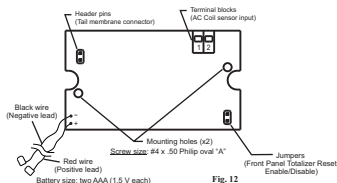

Fig. 12
- Model F-1000-TB:The F-1000-TB is the basic totalizer meter. The meter will display the total flow amounts from .01 through 999999 in any engineering units. Some standard units of measure are GALLONS, LITERS, CUBIC METERS. Pressing and holding the RESET button (located on the front panel) for at least 2.0 seconds resets the total to zero. This feature can be disabled -- see Fig. 12 below.
- Model F-1000-RT:The F-1000-RT is the rate and totalizer meter. The meter will display the flow rate amounts and the total flow amounts from .01 through 999999 in any engineering units. Some standard units of measure are GALLONS PER MINUTE, GALLONS PER HOUR, GALLONS PER DAY, LITERS PER MINUTE, LITERS PER HOUR, LITERS PER DAY, CUBIC METERS PER HOUR, CUBIC METERS PER DAY. Pressing the RESET button (located on the front panel) toggles the display between flow rate and total flow. Pressing and holding the RESET button for at least 2.0 seconds while the total flow value is displayed will reset the total to zero. This feature can be disabled. See Fig. 12 below.